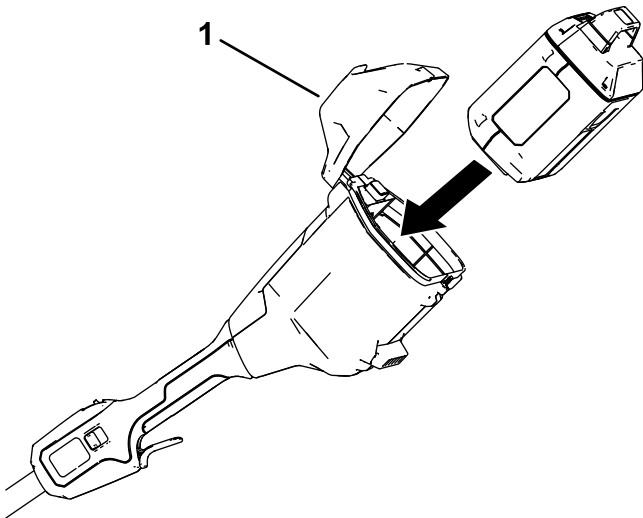

Figure 7
2. Open the battery lid (Figure 7).
3. Align the cavity in the battery pack with the tongue in the battery compartment (Figure 7).
4. Push the battery pack into the battery compartment until the battery locks into the latch (Figure 7).